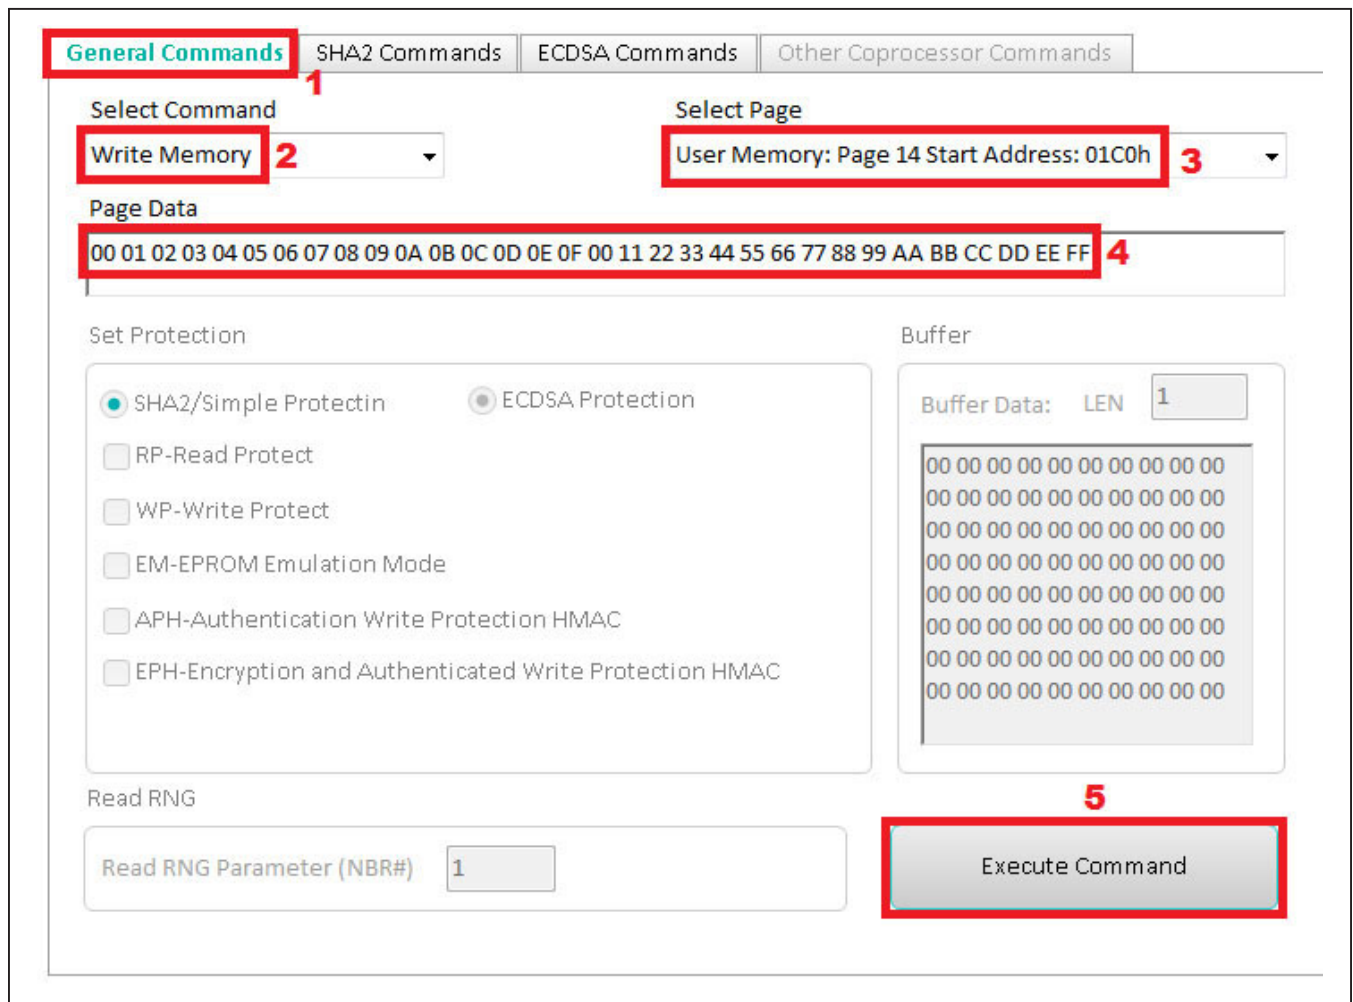

Figure 21. Write Memory Command to Page 14 with Feature Data
- 5) The desired features can now be set in a page of user memory (Figure 21). Select the **General Commands** tab from the **Select Command** drop-down list and select **Write Memory**. From the **Select Page** drop-down list, choose **User Memory: Page 14 Start Address: 01E0h** and fill in the desired **Page Data**. Finally, click on the **Execute Command** button. Note the **Log** should display **<SUCCESS>** at the end with the data just written.